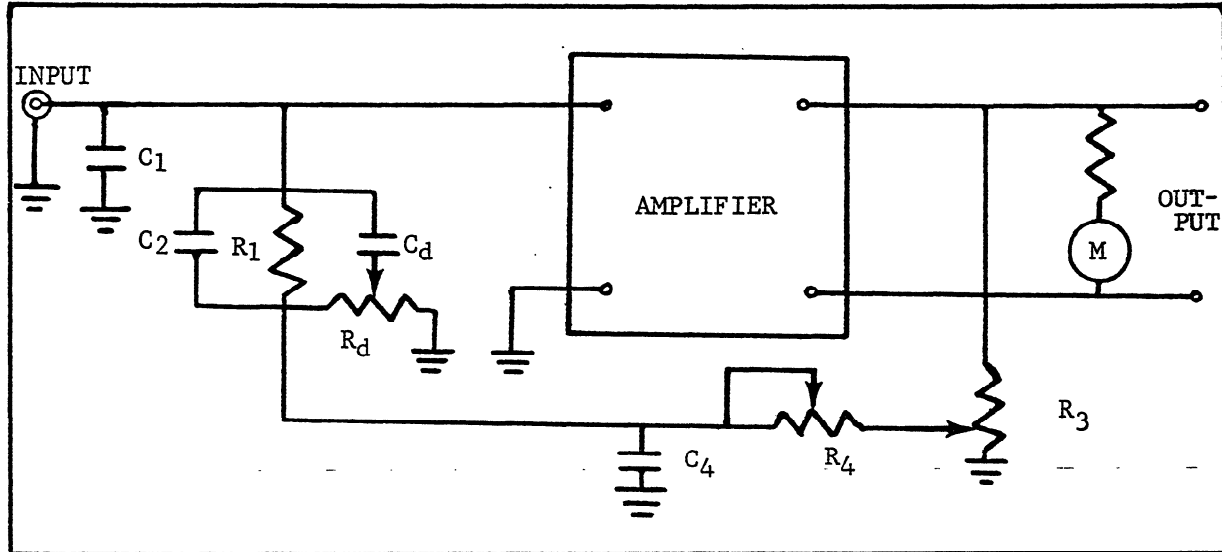

FIGURE 14. Critically Damped Feedback Network.  $R_4$  and  $C_4$  are added to the circuit of Figure 12 so that  $R_4C_4 = R_1C_2$ .
2. To decrease the effect of  $R_1C_2$ , resistor  $R_4$  and capacitor  $C_4$  are added to the circuit. (See Figure 14.) If  $R_4C_4 = R_1C_2$ , a lead network cancels a lag network and equation 4 becomes